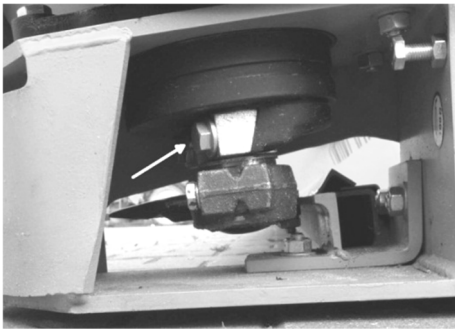

Figure 45
Lubricate the knife drive head. (Figure 45)
Remove the locking screws (V) of the hood and open the left side protection (P). (Figure 45)